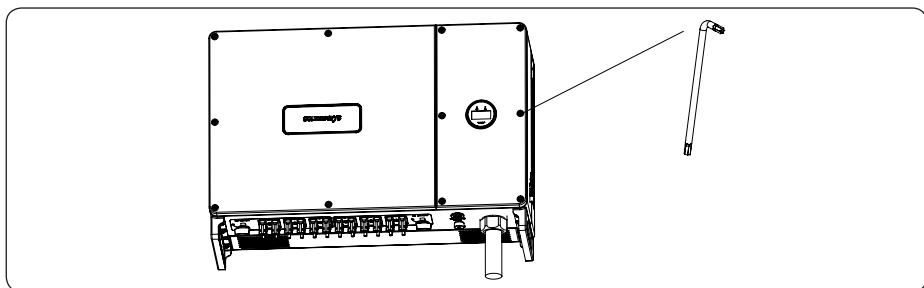

Figure 4-16
5) Put back the right roof cover and lock with its original screws. As shown in Figure 4-16: